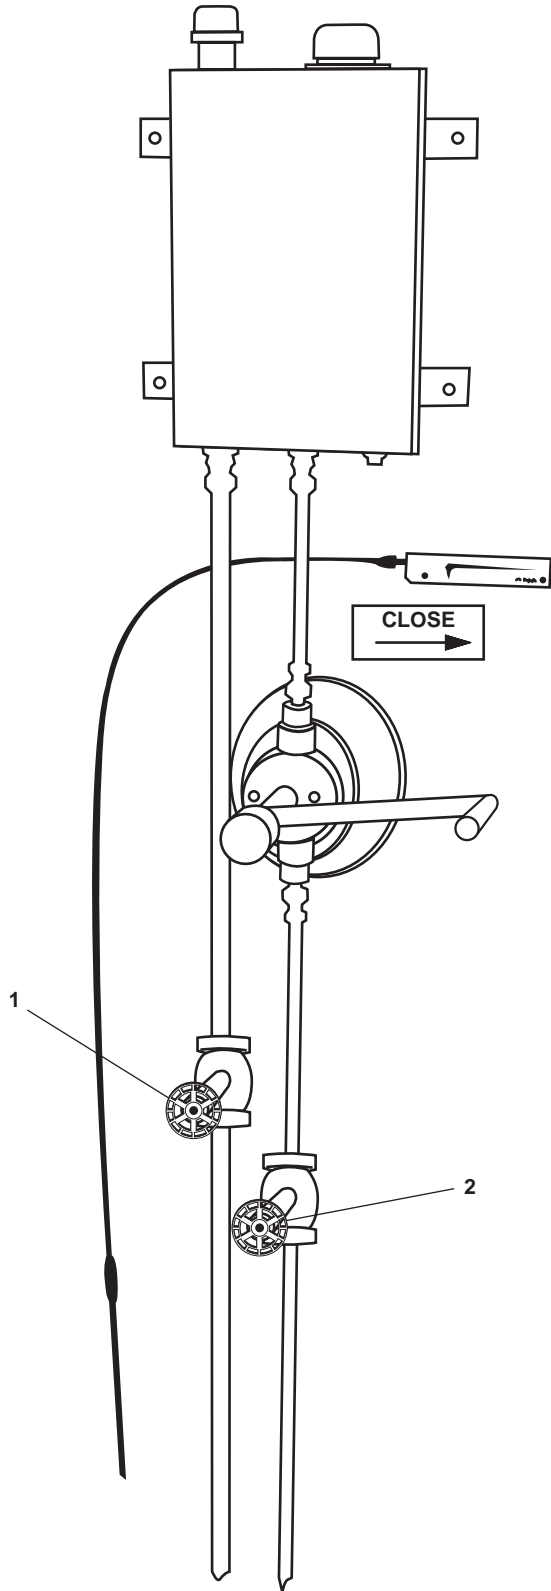

Figure 1. Valve Assembly
1. CLOSE the remote valves (figure 1, items 1 and 2).